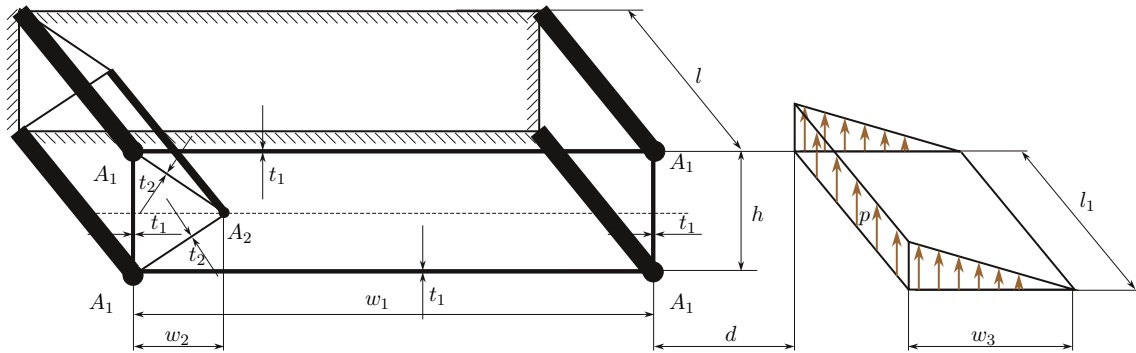

Figure 1: Loaded wing
- The semi-monomocoque wing of Figure 1 is loaded by triangular pressure distribution. Compute the rotation angle of the section located at distance  $l$  from the encastre (i.e. the location from which the pressure load starts. Refer to Table 1 for the problem data, and assume reasonable values for any missing constant.